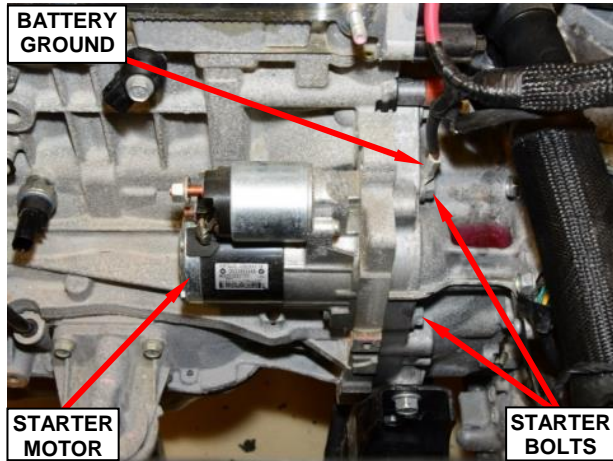

Figure 85 – Starter Motor
64. Remove and save the two bolts securing the starter motor (Figure 85).
65. Remove and save the starter motor (Figure 85).